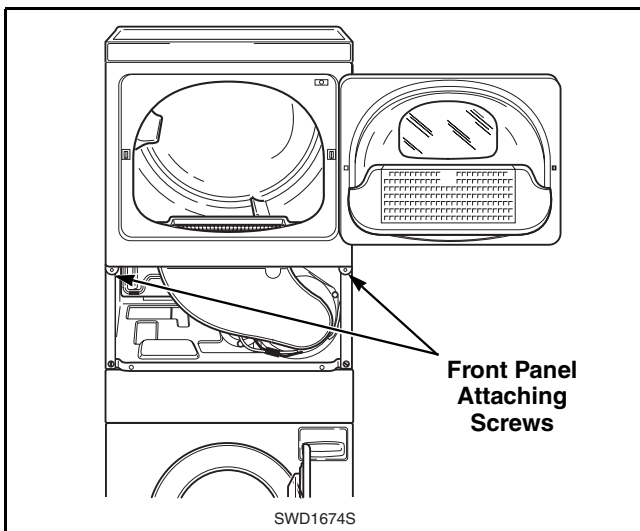

Figure 28
- c. Remove two screws holding bottom tabs on front panel to dryer cabinet. Refer to *Figure 28*.
- c. Remove two screws holding bottom tabs on front panel to dryer side panels. Refer to *Figure 28*. Swing bottom of front panel away from dryer far enough to disengage hold-down clips and locators from cabinet top.
- c. Remove two screws holding tabs on front panel to dryer side panels. Refer to *Figure 28*. Swing bottom of front panel away from dryer far enough to disengage hold-down clips and locators from cabinet top.